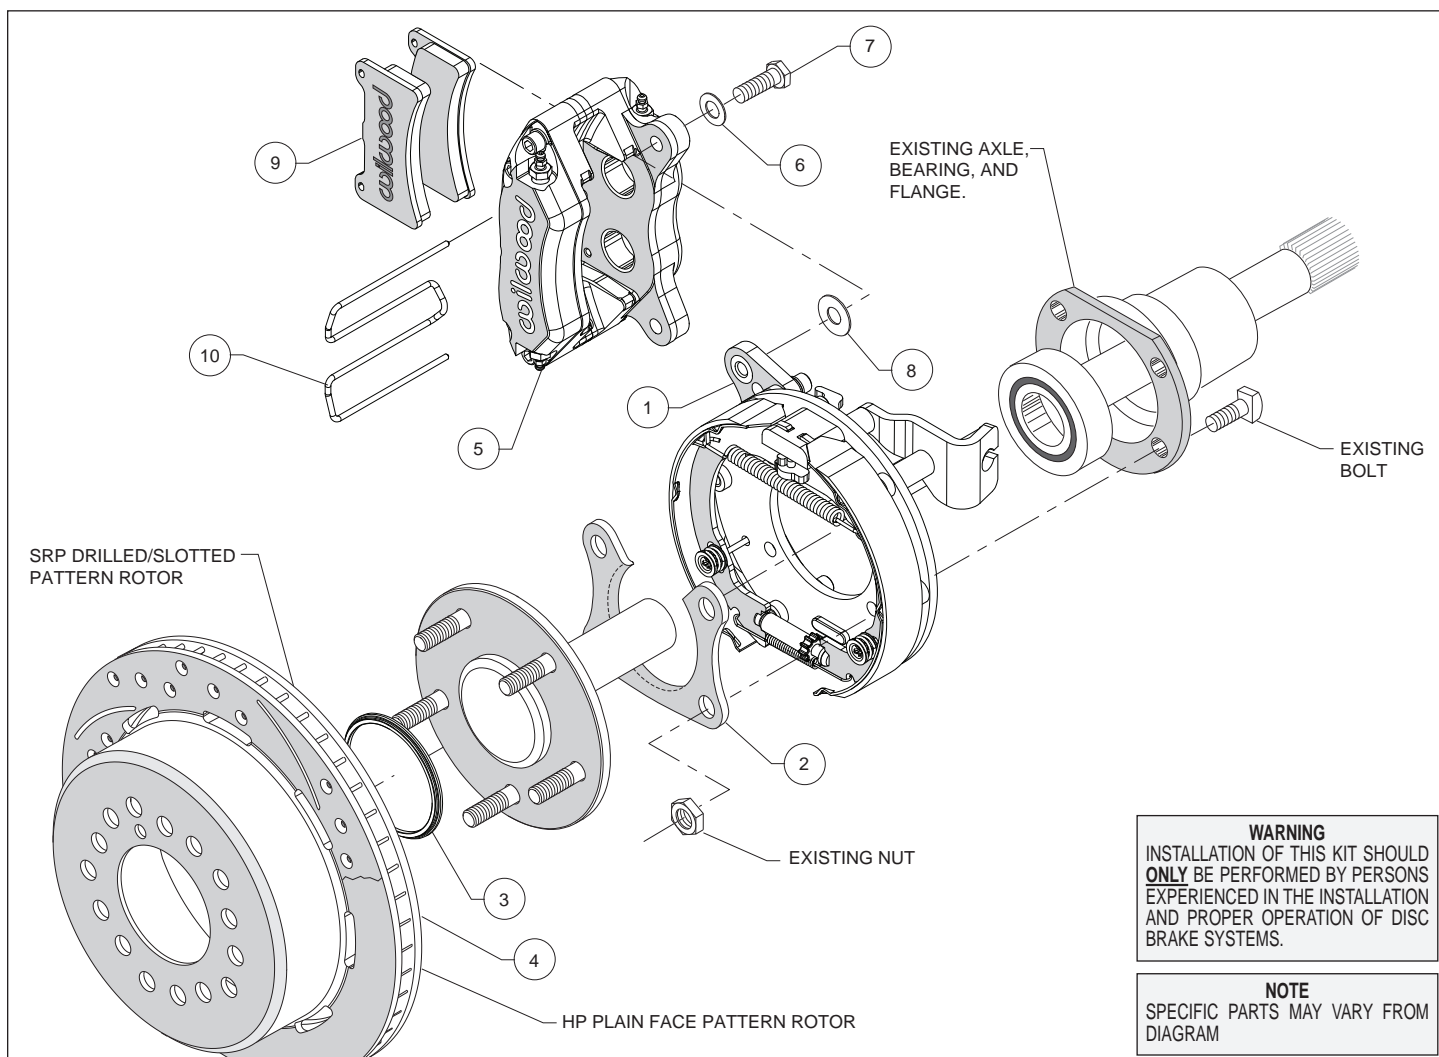
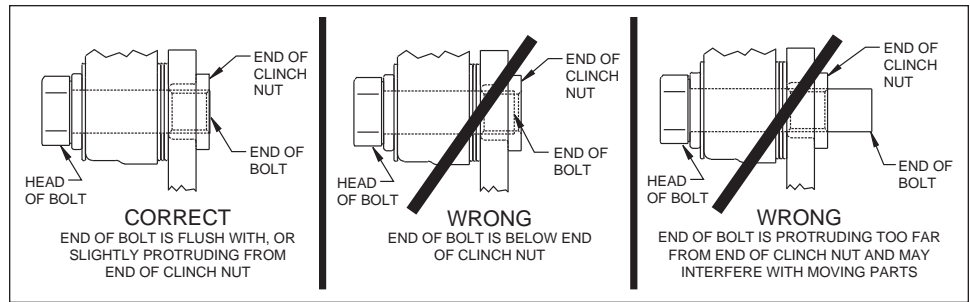

Figure 1. Typical Installation Configuration
Figure 5. Clinch Nut Engagement Diagram
Assembly Instructions (numbers in parenthesis refer to the parts list, and Figure 1 on the preceding pages): **CAUTION:** All mounting bolts must fully engage clinch nuts. Be sure to check that all bolts are either flush or protruding through flanged side of clinch nut after shimming, Figure 5.
- Orient the bracket assembly (1) as shown in Figure 1 and Photo 1 and slide it onto the axle. Insert the axle and bracket into the axle housing. Ensure that the bracket assembly backing plate fits flush against the axle housing flange.
- Install the bearing retainer (2) with the opening pointing upward and the lip facing inward (toward the bearing), as shown in Figures 1 and 4, and Photo 2. Secure retainer and bracket assembly to the axle housing flange using the Original Equipment Manufacturer (OEM) bolts and nuts, Figure 1. Apply red *Loctite*® 271 to the OEM bolt threads and torque to OEM specifications.
•Slide the rotor registration adapter (3) onto the axle register on the axle flange with the smaller O.D. facing toward the rotor/hat (4), Photo 3. Align the correct hole pattern in the rotor/hat with the stud pattern on the axle flange and slide into place, Figure 1 and Photo 4. **NOTE:** The rotor/hat must fit flush against the axle flange or excessive rotor run out may result. Install three lug nuts (finger tight) to keep the rotor/hat assembly in place while continuing with the installation. **NOTE:** Some OEM and after market axles come with stud sizes larger than 0.50" diameter. Verify stud size and have a qualified machine shop drill the bolt circle of the hat/rotor to the correct stud size, if necessary.
•**NOTE:** Please reference the caution statement at the beginning of the assembly instructions. Mount the caliper (5) onto the caliper mounting bracket (1) using bolts (7) and washers (6), as shown in Figure 1. Initially place one .035" thick shim (8) on each bolt between the caliper and the bracket, Photo 5. Temporarily tighten the mounting bolts and view the rotor (4) through the top opening of the caliper. The rotor should be centered in the caliper, Photo 6. If not, adjust by adding or subtracting shims between the bracket and the caliper. Always use the same amount of shims on each of the two mounting bolts. **NOTE:** The end of each bolt must be flush with or slightly protruding from the head of the clinch nut, as shown in Figure 5. If necessary place spare shims between washer (6) and caliper mounting ear to achieve the proper clinch nut engagement. Once the caliper alignment and clinch nut engagement are correct, remove the bolts one at a time, apply red *Loctite*® 271 to bolt threads, and torque to 40 ft-lb.